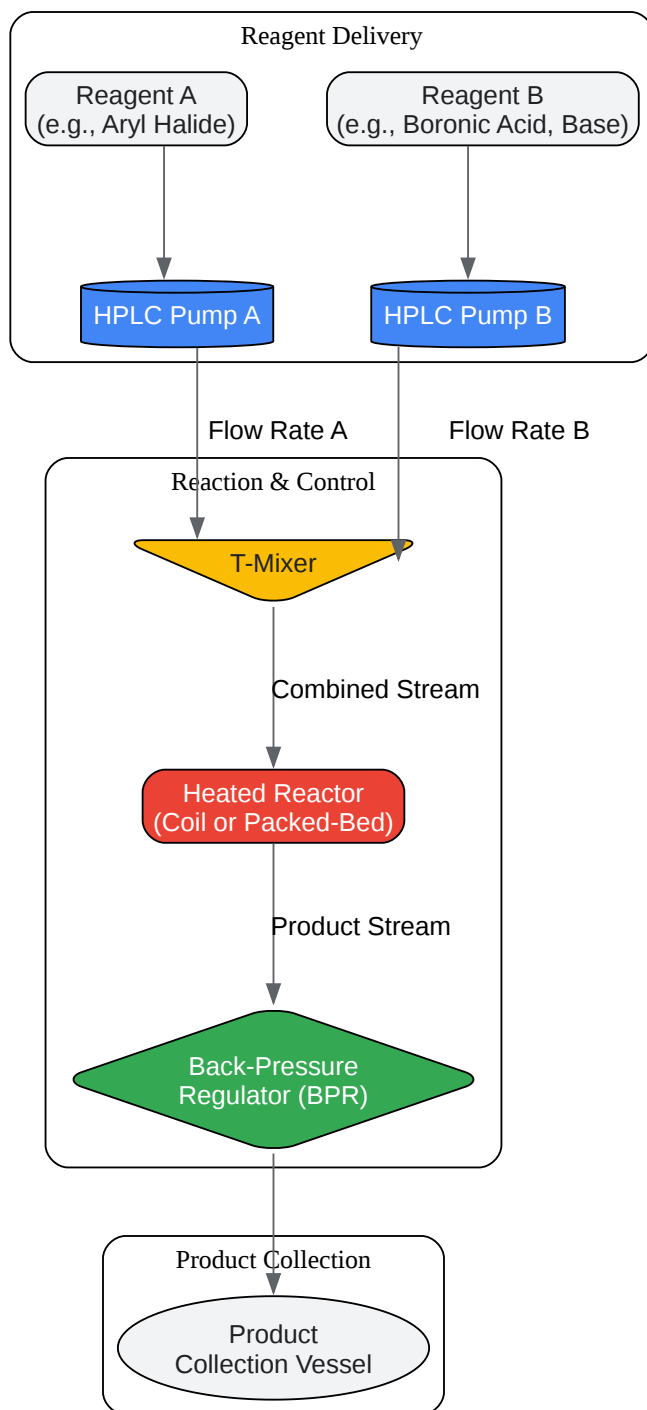

Figure 1: Generic Flow Chemistry Setup
Caption: Figure 1: Generic Flow Chemistry Setup
- Assemble the flow system as shown in Figure 1.